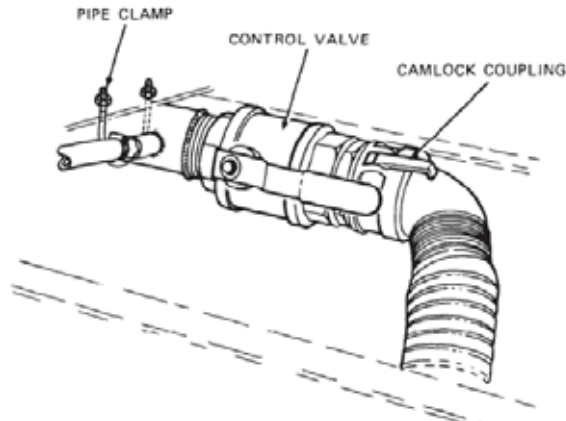

Figure 13 Spraybar Control Valve
- b. Open the spraybar control valve (Figure 13) and drain any water which may be present in the pipe.